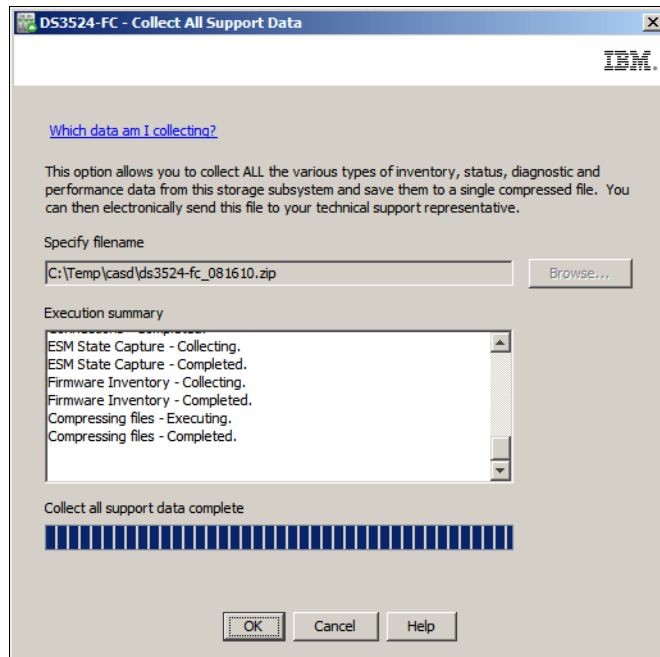

Figure 14-7 Collect All Support Data - Save Completed
4. The window displays a message indicating when the support data has been collected and saved to the file that you specified in step 1, see Figure 14-7 on page 334.